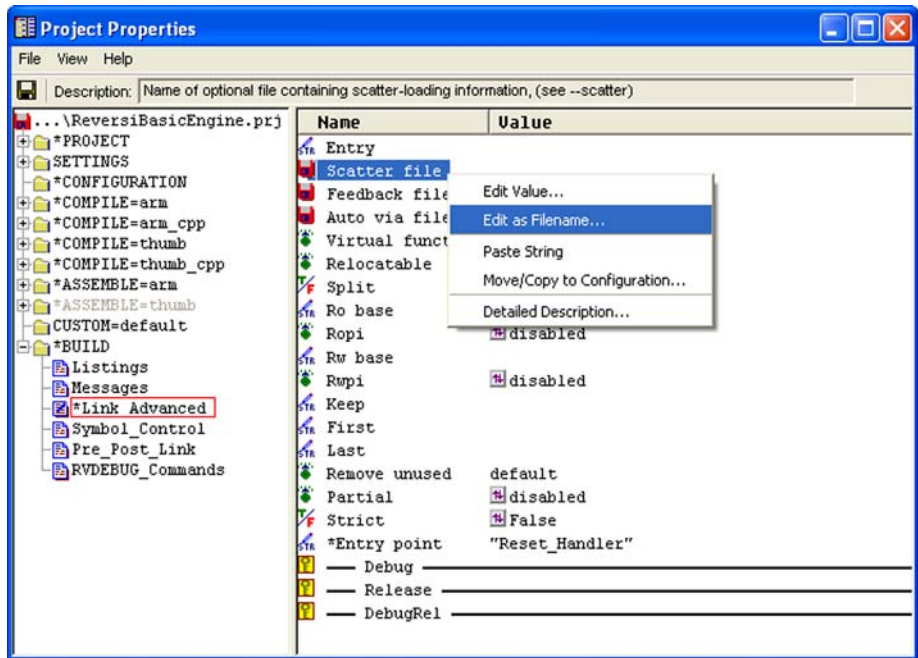

Figure 5-58. RealView Project Properties Build Options
13. Right-click the **Scatter file** entry in the **Link Advanced** pane and select **Edit as Filename** from the context menu, as shown in Figure 5-58.